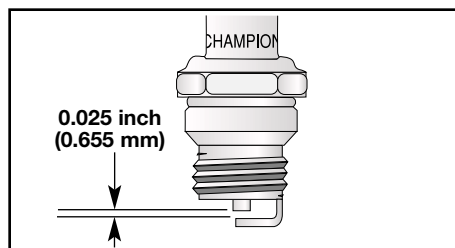

Fig. 30
3. Set the air gap at **0.025 in. (0.655 mm)** using a wire feeler gauge (Fig. 30). Install a correctly gapped spark plug into the cylinder head. Torque to **110-120 in•lb (12.3-13.5 N•m)**.